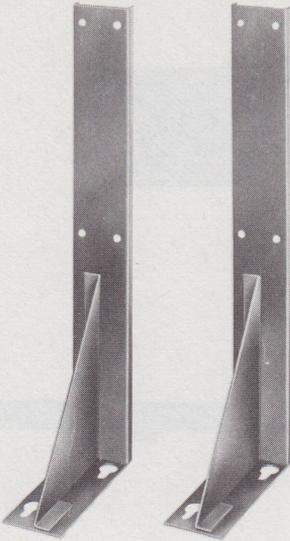

Fig. 35—Metal Stand Per ED-95023-70
5.04 The metal stand per ED-95023-70† (Fig. 35) has two leg assemblies used to mount one 16A apparatus mounting, or one J86731A, List 4 power plant, and may be used with the 16C apparatus mounting when redrilled locally. It is furnished with four RHM screws, four hex nuts, and four washers.